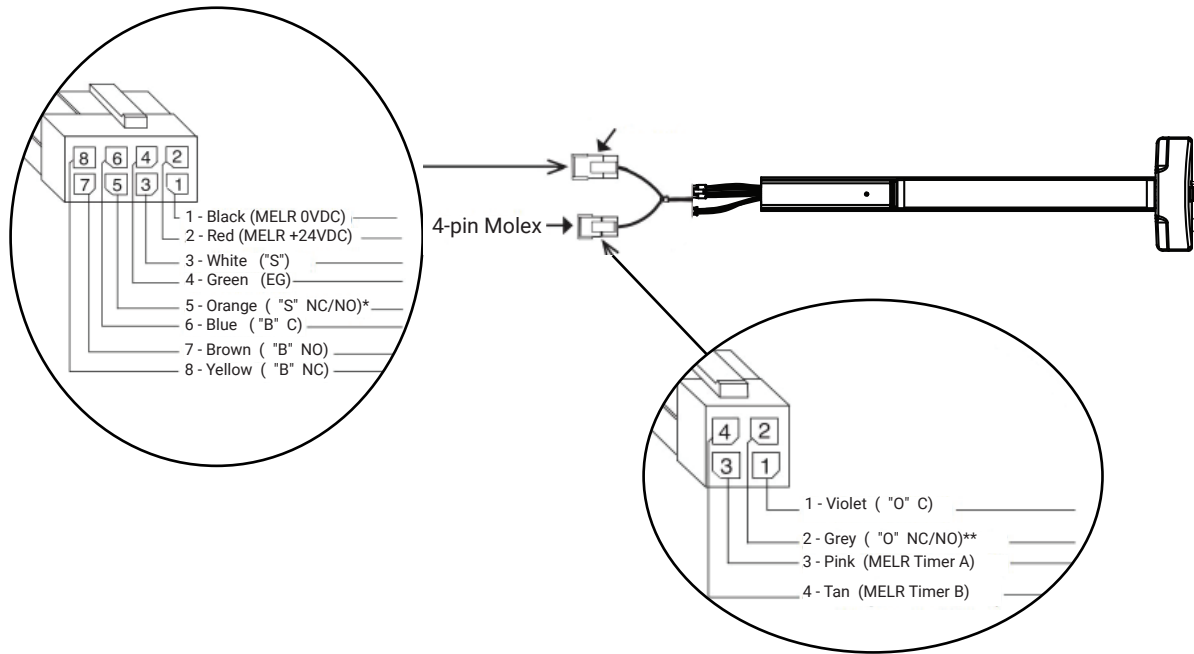

Figure 4 - Wire color and Position
MELR option devices are supplied with one (1) 4-pin and one (1) 8-pin Molex® connector (See Figure 4). Molex connectors allow simple installation using the ASSA ABLOY ElectroLynx® system.